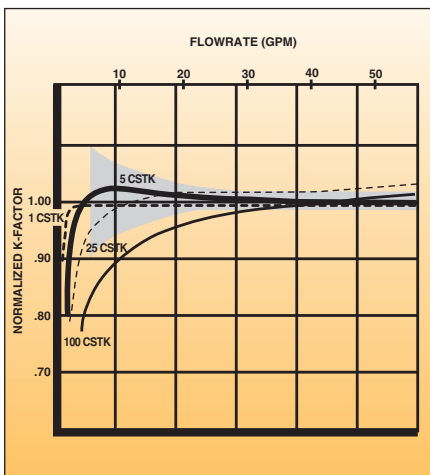

Figure 3: Viscosity effects on 2-inch turbine. Shading denotes error envelope of ±1% full scale
2) Accept a lesser accuracy: Due to the cost advantages of using a turbine flowmeter over other flowmetering types, turbine flowmeters are often used at viscosities that introduce some loss in accuracy and some loss in flow range. A flowmeter may be considered for an application even if its accuracy is only ±1% of full scale instead of the standard ±0.5% of reading which can be achieved on low viscosity fluids. Figure 3 shows the allowable error band of ±1% of F.S. as a frame of reference. It is therefore often possible to provide a standard turbine meter for a viscous fluid application, so long as the user can accept a smaller operating range and/or a decreased accuracy. However, no general guidelines can be laid out, since accuracy, range, and viscosity vary with each application and each turbine meter size. Feel free to call the Flow Department to discuss your application.